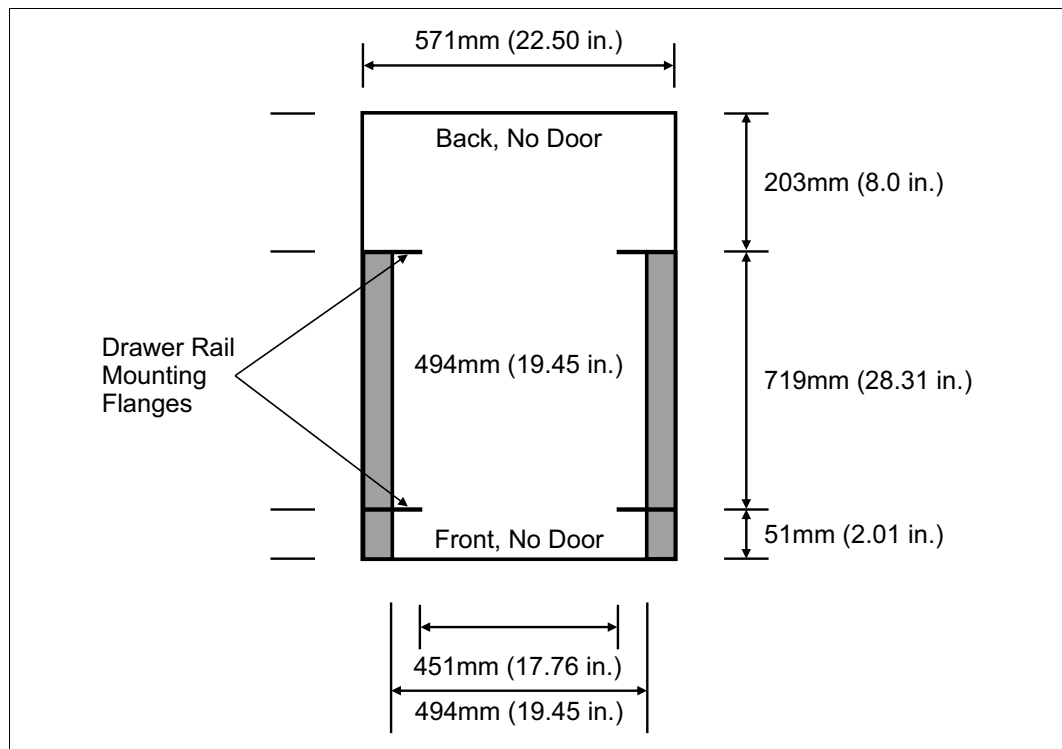

Figure 1-13 Top view of non-IBM rack specification dimensions
- ▶ The front rack opening must be 451 mm wide  $\pm 0.75$  mm (17.75 in.  $\pm 0.03$  in.), and the rail-mounting holes must be 465 mm  $\pm 0.8$  mm (18.3 in.  $\pm 0.03$  in.) apart on center (horizontal width between the vertical columns of holes on the two front-mounting flanges and on the two rear-mounting flanges). Figure 1-13 shows a top view showing the specification dimensions.